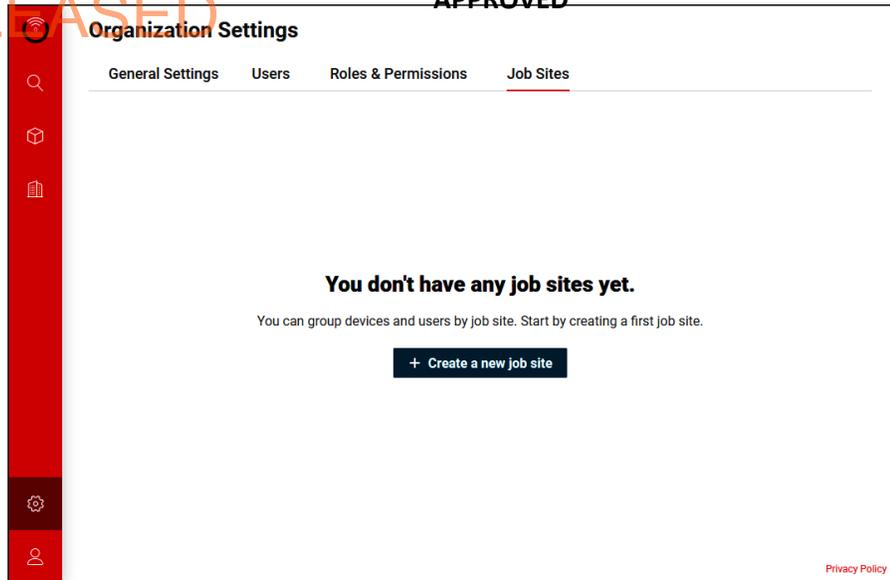

Figure 49. Create Job Site Button
- Click on “+ Create a new job site” button on the screen. See **Figure 49**.